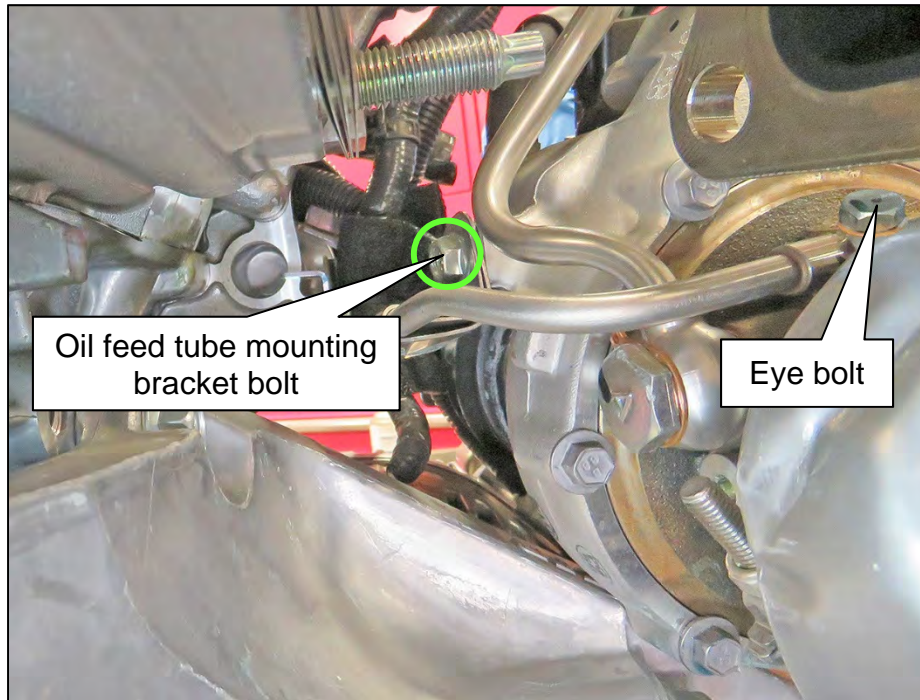

Figure 56
85. Install and temporarily tighten the eye bolt for the oil line, with a new gasket (Figure 56).
86. Reattach the oil feed tube mounting bracket with bolt (Figure 56) and torque to specification.